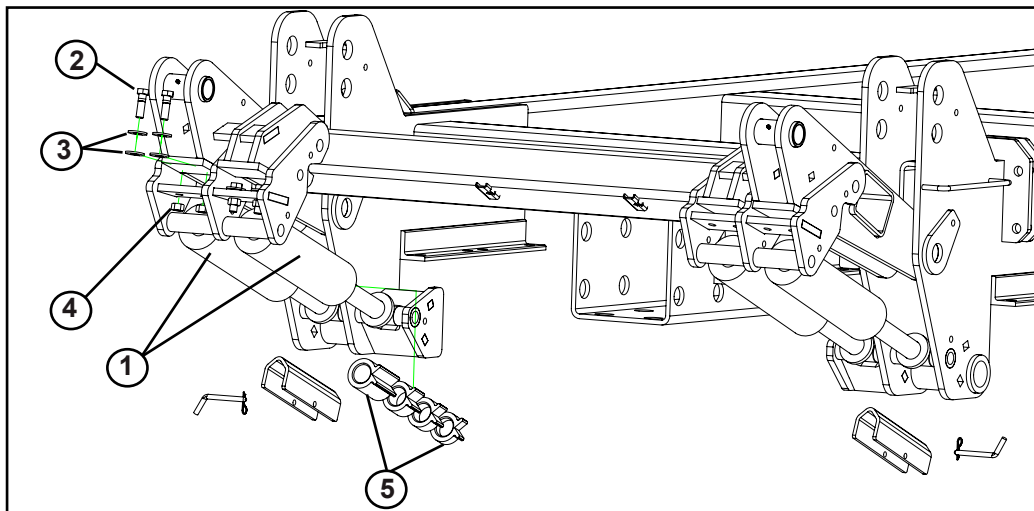

Fig. 90
If operating in soft ground, the center section can be set to run higher by adding bolts and washers in the link arms (1) as shown below (fig 90). When using the cylinder stops, the cylinder stops must be used on all the lift cylinders.